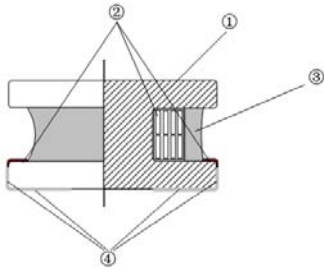

Fig.4-2
- 2) Structure: See **Fig. 4-2** and **Table 4-2**.